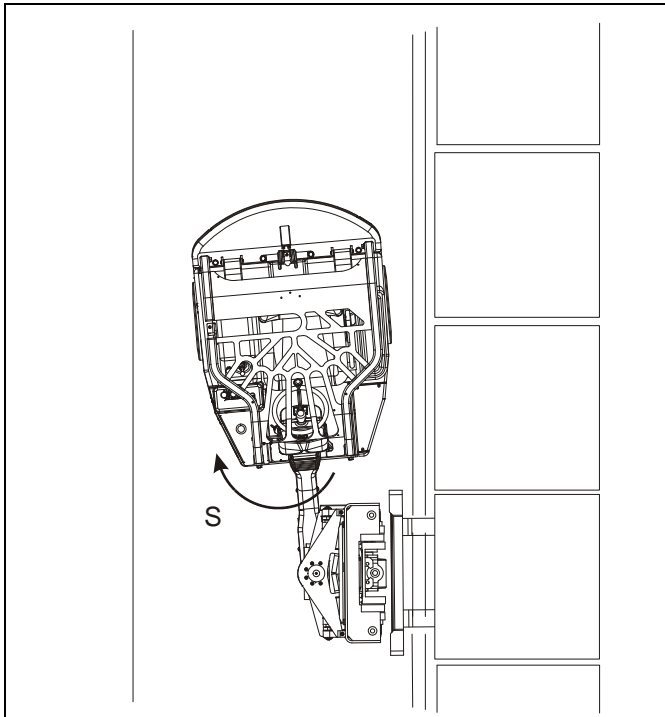

Figure 4-14: Inserting the Forks into the Load
7. Straighten out the forks using the steering wheel as you drive them into the load so the forks enter the load in a straight line. See Figure 4-14.